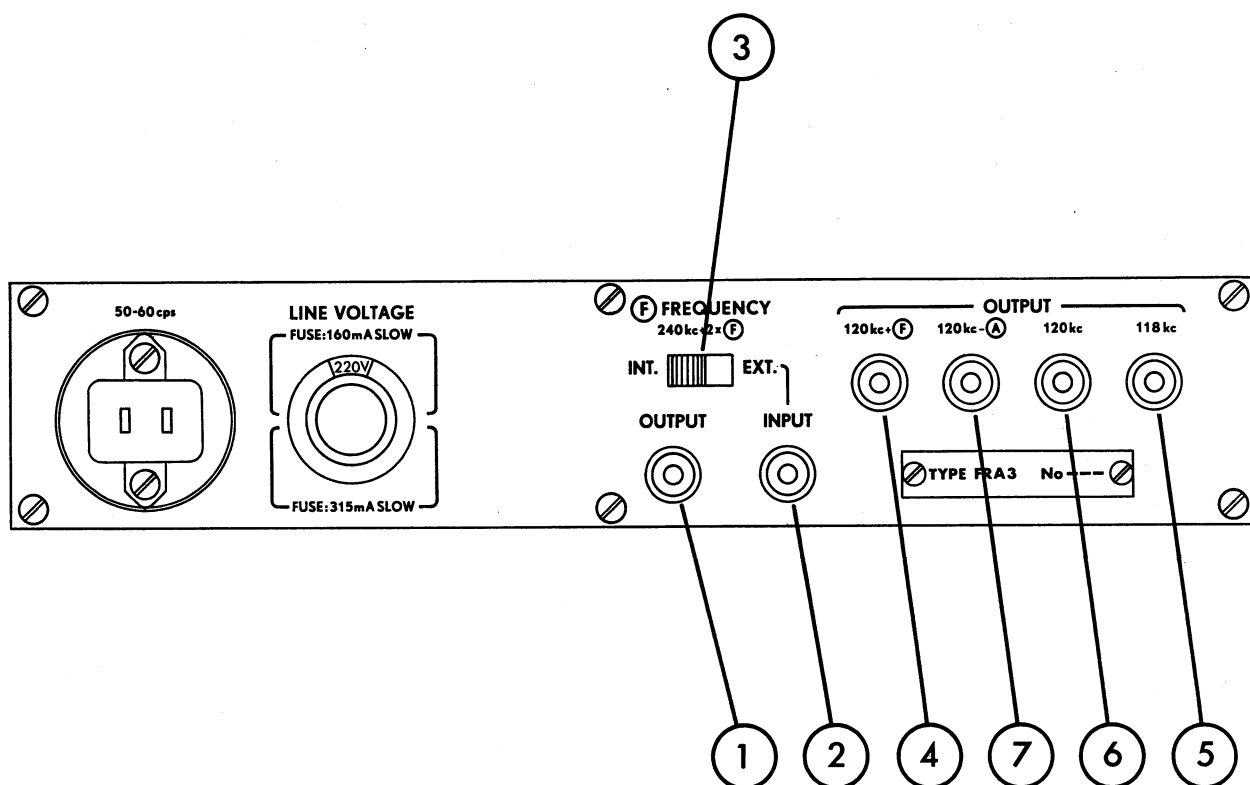

Fig.8. Rear panel of the Wave Analyzer, type FRA3.
The six rear panel terminals are all of the BNC type (See Fig.8). The terminal, 240 kc + 2 F OUTPUT (1), always carries the F-oscillator voltage independently of switch settings. About 3 V rms are available from a 25 Ω source.
As seen in Fig.8, all three are located on the rear of the instrument. Use 1 160 mA slow-blow fuse for a line voltage between 200 and 240 volts and a 315 mA for 110 - 127 volts operation. The Wave Analyzer, type FRA3, is set to a line voltage of 220 volts when leaving the factory and is furnished with 2 corresponding fuses.